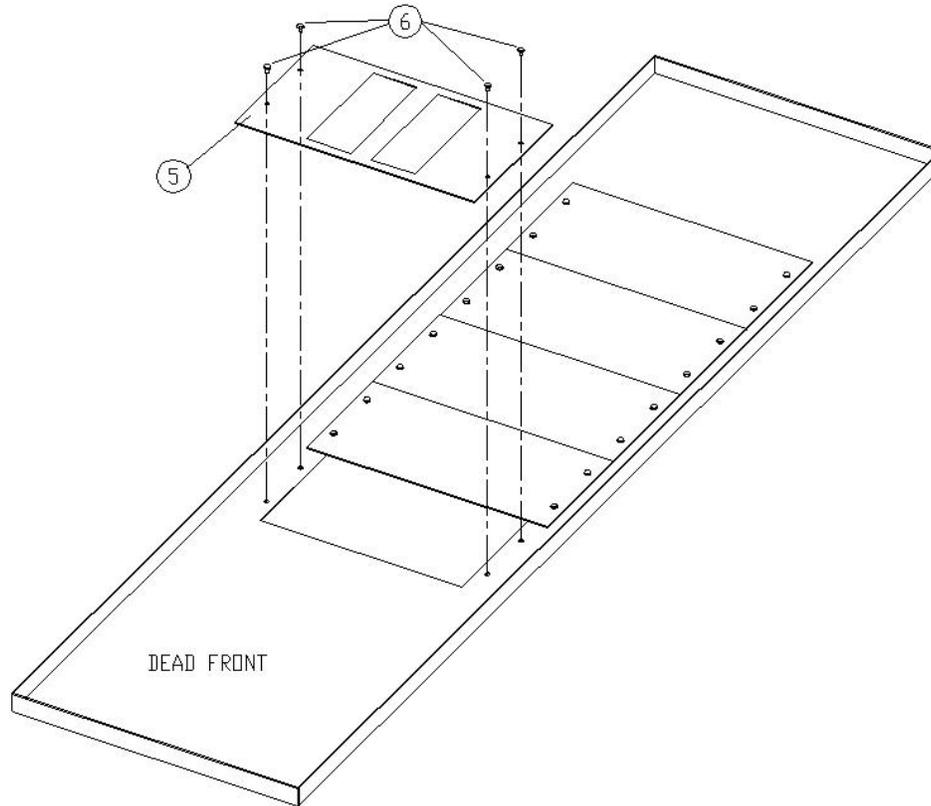

Figure 3. Attaching the shield insert to the shield for THQB breaker installation in A-Series® II Panelboards.
7. Place the filler plate [5] over the dead front so that the four same-size holes line up with the threaded holes of the dead front, as illustrated in Figure 3. Fasten filler plate to the dead front with four #10-32 x  $\frac{3}{8}$  screws [6] tightened to 27-36 in-lb.